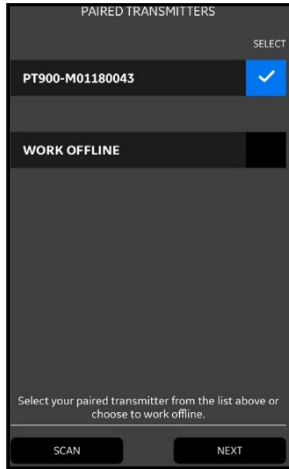

Figure 70: Paired Transmitters List
- Click the BACK button on the tablet to return to the PT900 APP main menu. Then, select your PT900 transmitter in the TRANSMITTERS PAIRED list and click NEXT to open the Main Menu. For example, the PT900-M09160025 transmitter is selected from the list in Figure 70 below.
- Note:** If desired, you may simulate the APP operation without connecting to the transmitter. To do so, click the WORK OFFLINE option in Figure 70 above.